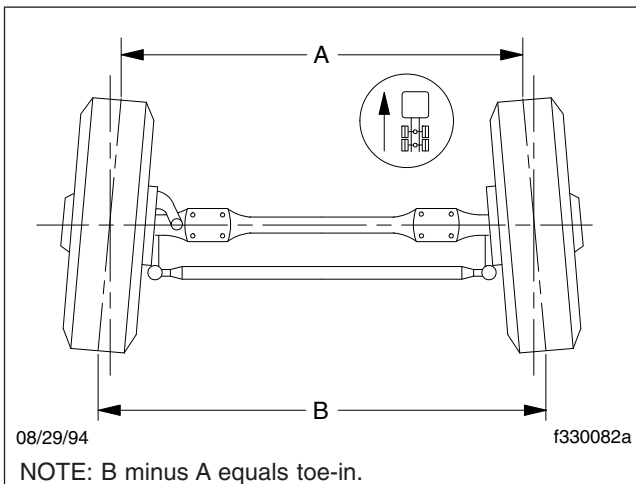

Fig. 7, Wheel Toe-In (overhead view)
6. Place a trammel bar at the rear of the front tires; locate the trammel pointers at spindle height, and adjust the pointers to line up with the scribe lines on the center ribs of the front tires. See Fig. 7. Lock in place. Check that the scale is set on zero.